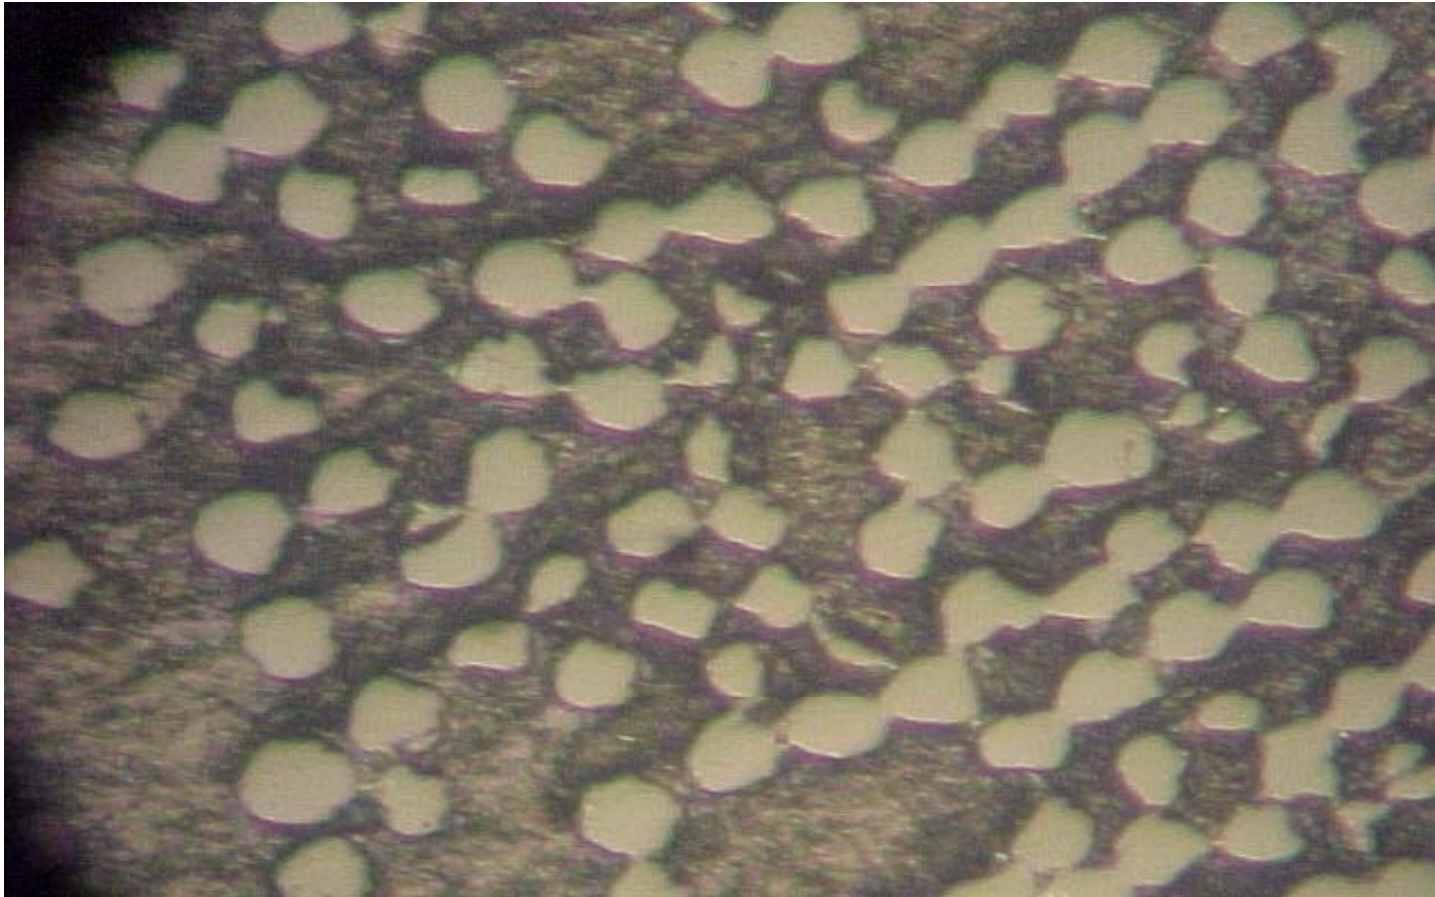

Figure 1 Typical appearance of a cross section of a fiber glass reinforced composite
- Draw a 1" * 1" frame on the saved image which should look similar to that given in figure 1.